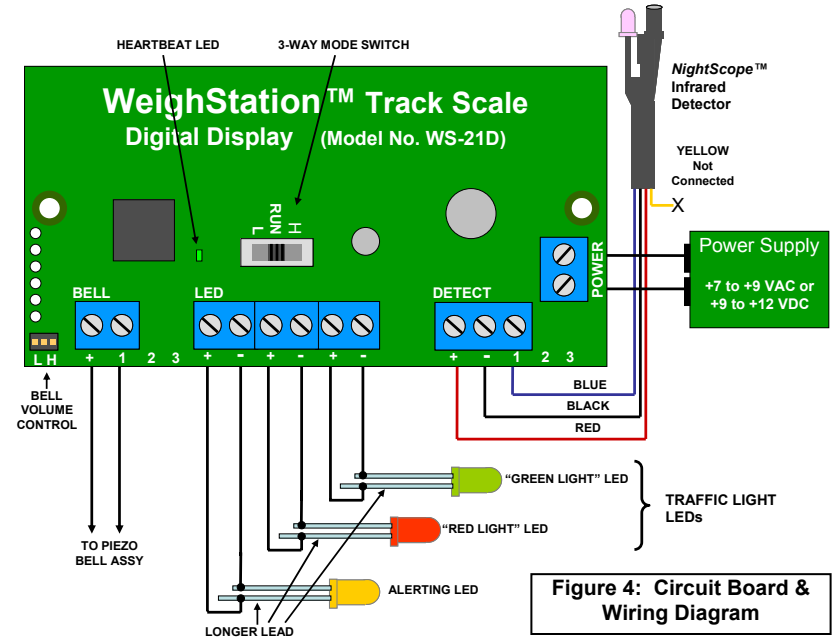

Figure 4: Circuit Board & Wiring Diagram
Figure 4 shows how to wire your **WeighStation™ Track Scale**, along with key features on the circuit board.
1. Connect two wires from your power supply to the Track Scale power terminals as shown in Figure 4. Polarity does not matter. The power supply must be 7 to 9 Volts AC or 9 to 12 Volts DC, with 250 mA capacity. Radio Shack sells an AC adapter (#273-314) that works well.
2. Connect the RED, BLACK and BLUE wires from the **NightScope™ Infrared Train Detector** as shown in Figure 4. The YELLOW wire is not used – trim it and insulate the end.
3. If you are using the Piezoelectric Bell Assembly, connect it as shown in Figure 4. Polarity does not matter.
4. You can directly wire an Alerting LED as in Figure 4. Install the LED on or near your Scale House. Or you can install the red and green "traffic light" LEDs as shown. (LEDs are not included.) LEDs are polarity sensitive – connect the long and short leads as shown. The Track Scale circuit board sources 20 mA at 2 Volts for each LED.
The Track Scale Circuit Board has a green “Heartbeat LED” (see Figure 4) that blinks every second while the Track Scale is waiting for a car. It is steadily on while the Track Scale is generating a car weight, or while setting the Display Range.
Use the 3-Way Mode Switch in the center of the circuit board (see Figure 4) to set the three Display Ranges as follows:
The Bell sound volume is controlled by the black jumper in the lower left corner of the circuit board (see Figure 4). Slip the jumper over the center and "L" terminals for a lower volume, or over the center and "H" terminals for a higher volume. To turn off the Bell, remove the jumper.